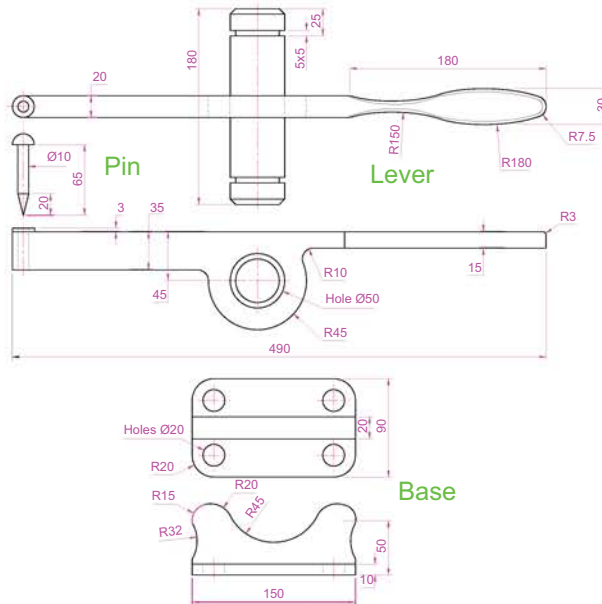
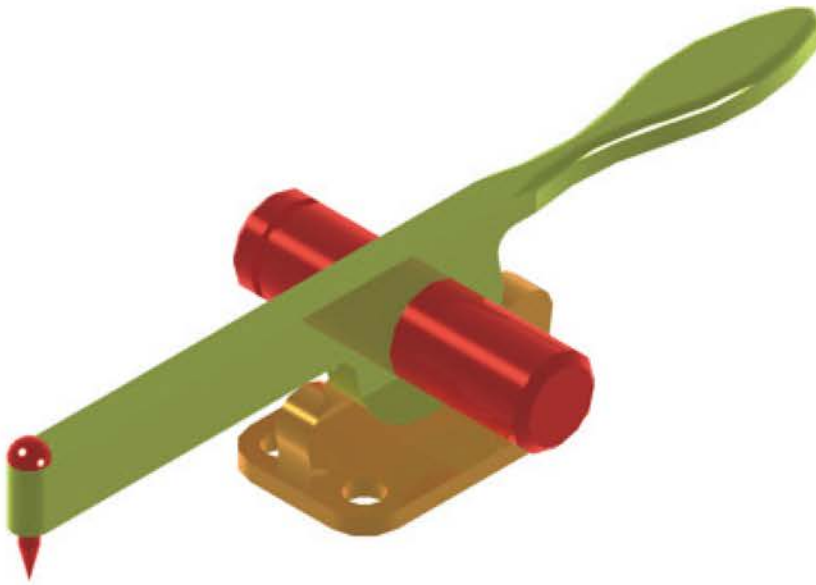

Fig. 18.39 Exercise 4 – details of shapes and sizes
Fig. 18.40 Exercise 4 – a rendering
4. A point-marking device is shown in two two-view projections in Fig. 18.39. The device is composed of three parts – a base, an arm and a pin. Construct a 3D model of the assembled device and add appropriate materials to each part. The add lighting to the scene and render in a **SW Isometric** view (Fig. 18.40).